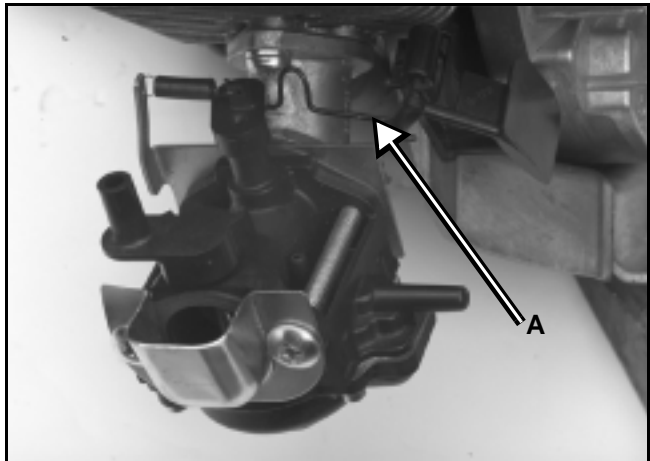

Figure 41
Should the governor link (A) be bent or replaced, adjustment will be necessary. (See Figure 41.)